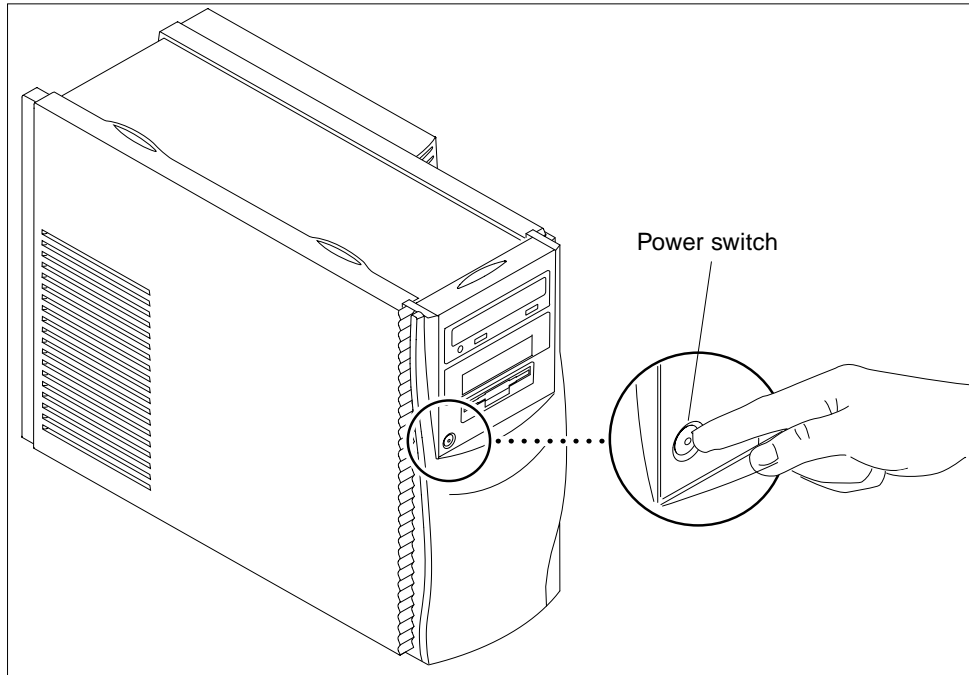
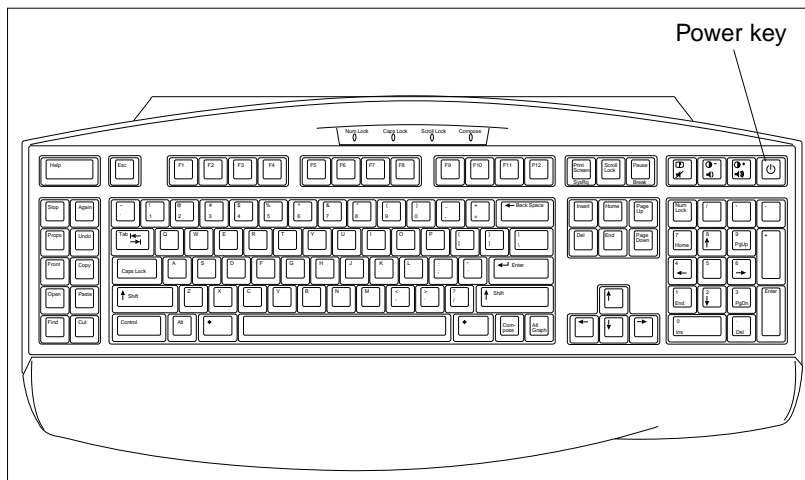

FIGURE 6-1 System Power
FIGURE 6-5 Type-6 Keyboard
3. **Momentarily press the front panel power switch (FIGURE 6-1); and follow the instructions on the screen.**
9. Momentarily press the power switch (FIGURE 6-1 on page 6-2) or the Type-6 keyboard power key (FIGURE 6-5).